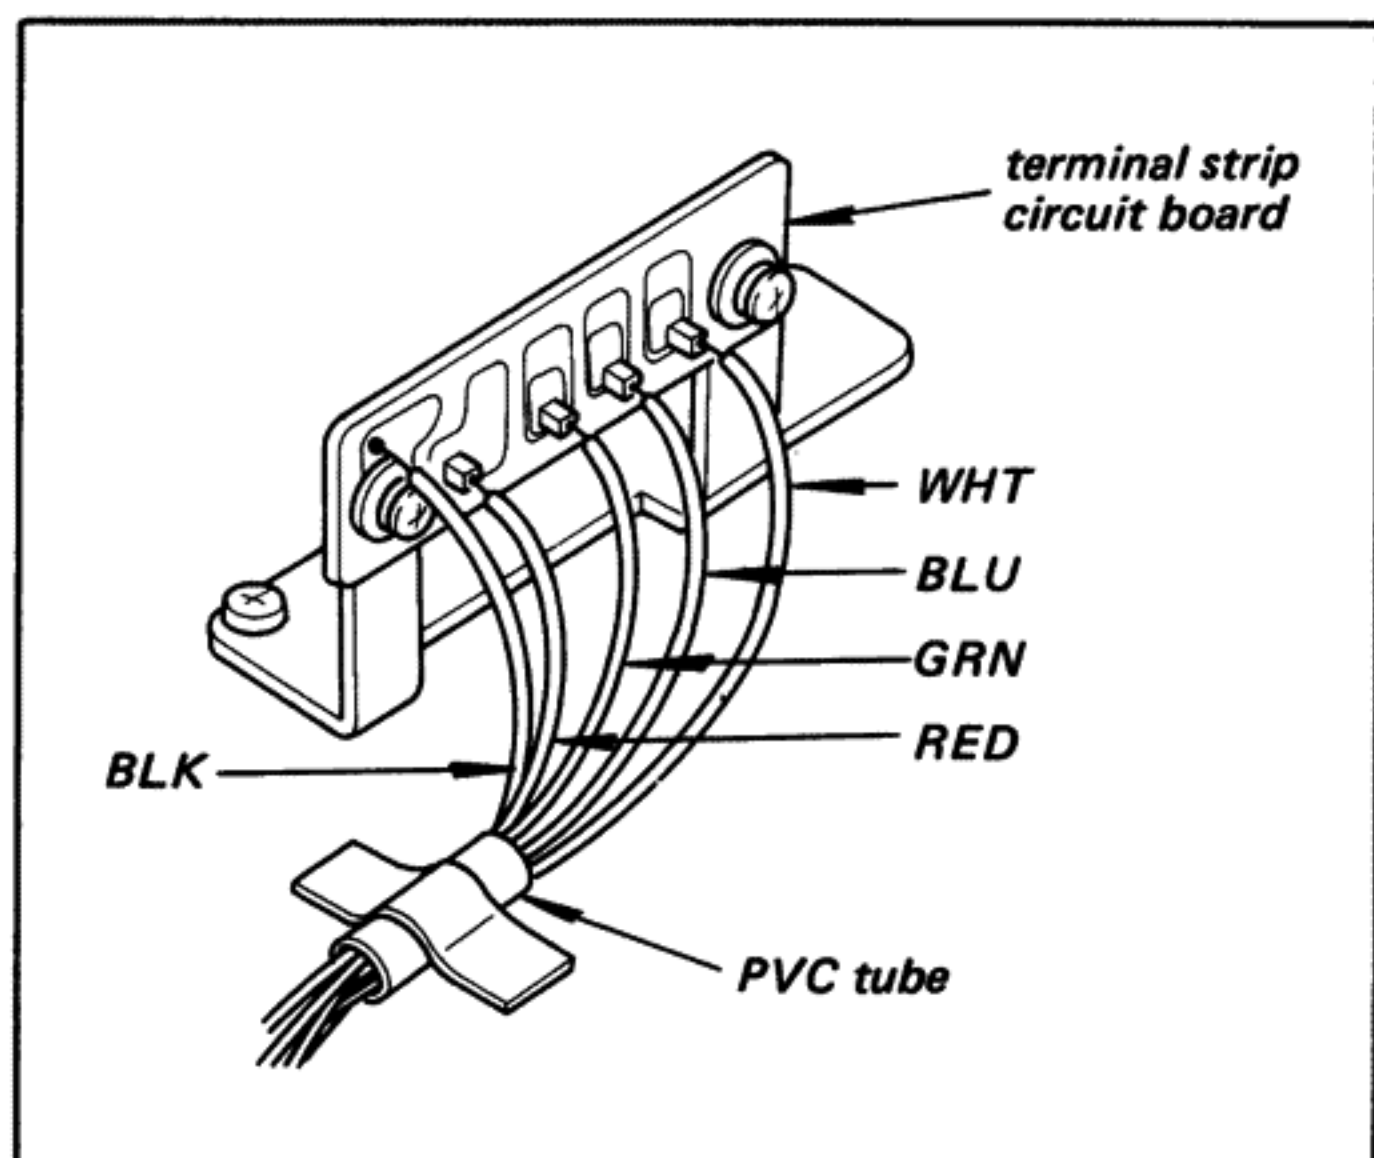

Fig. 2-4. Lead wire connection
5. Unsolder the five lead wires of tonearm at the terminal strip circuit board as shown in Fig. 2-4.
9. Place a piece of tube (3.3 mm dia x 20 mm) over the free end of the five lead wires and fix it with the tape on the turntable base as shown in Fig. 2-4.
10. Solder the five lead wires to the terminal strip circuit board as shown in Fig. 2-4.